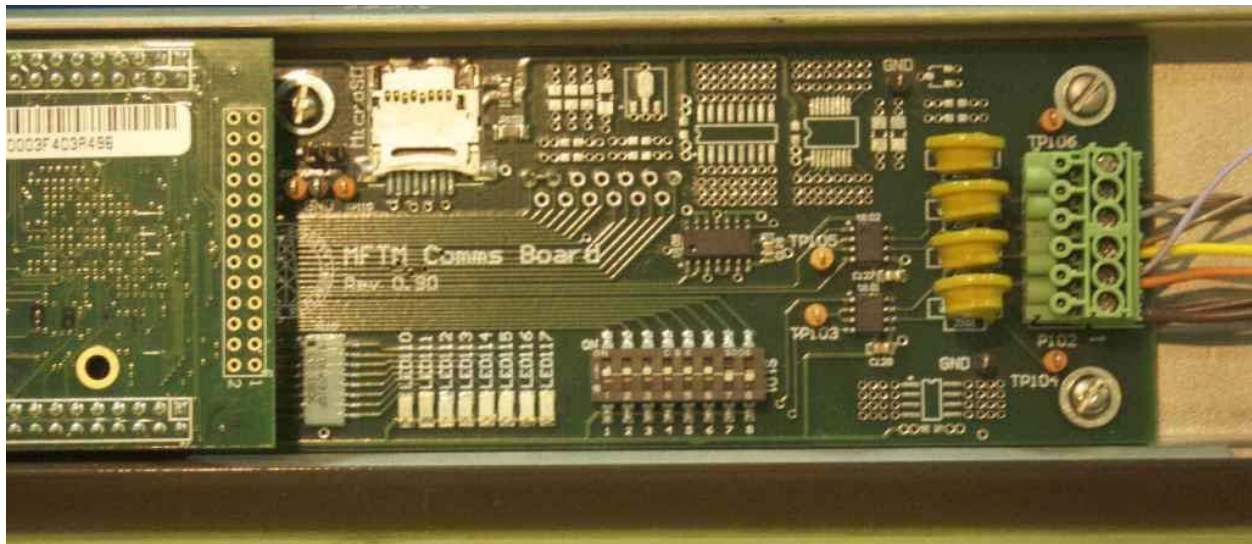

Fig 3. Dip Switch Settings
- Layout the MFTM on the bench and remove the electronics from the pressure housing. Insure that the dipswitch setting is configured for MDHDS. MDHDS dipswitch configuration is 11111100 where a 1 indicates on. Refer to fig 3. This step should be performed prior to shipping of the MFTM.